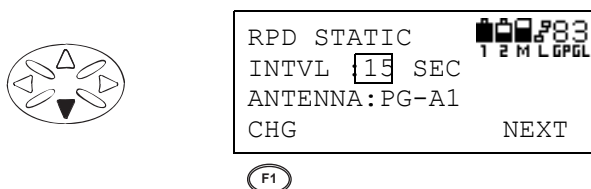

Figure 3-36. Select Interval
- Press the **down cursor key** to move to the INTVL parameter. Press **F1 (CHG)** and change the interval (Figure 3-36). For the interval, select either 1, 5, 10, 15, 30 or 60 seconds.